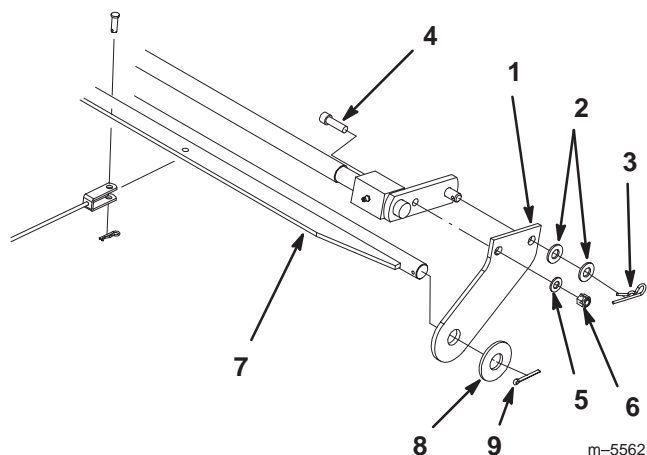

Figure 6
4. Attach a lift arm to the mower mount on one side of the traction unit using 2 flat washers (1/2 in.) and a large hairpin cotter on the pin and a socket head screw, flat washer (3/8 in.), and locknut (3/8 in.) in the second hole (Fig. 6).
5. Slide the lift shaft into the lower hole in the lift arm (Fig. 6). Slide the second lift arm onto the opposite end of the shaft and over the rod on the lift shaft. Secure the lift shaft in place with 2 large flat washers and cotter pins (5/32 x 1-1/2 in.) (Fig. 6).